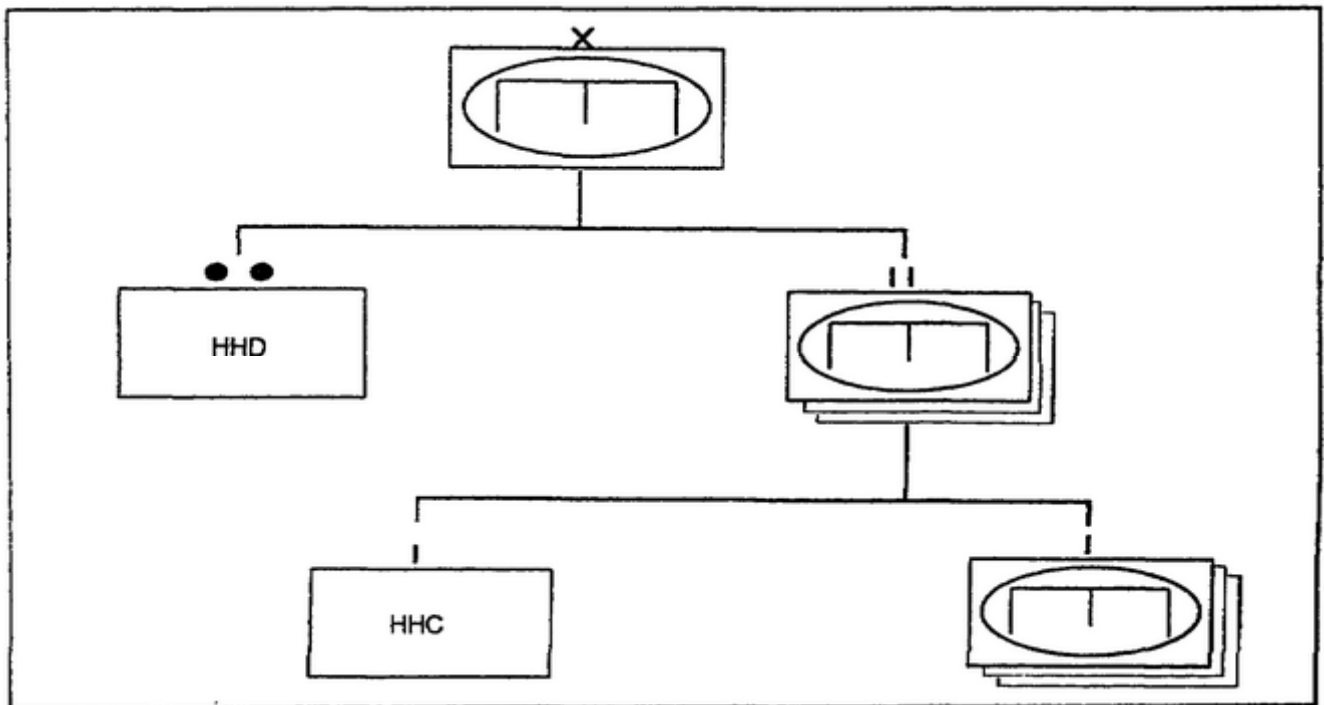

Figure 2-2. Division engineer organization.
- (2) Figure 2-2 shows engineers organic to an armored division. These engineers replace the former organic division engineer battalion and the corps mechanized battalion normally associated with the division.